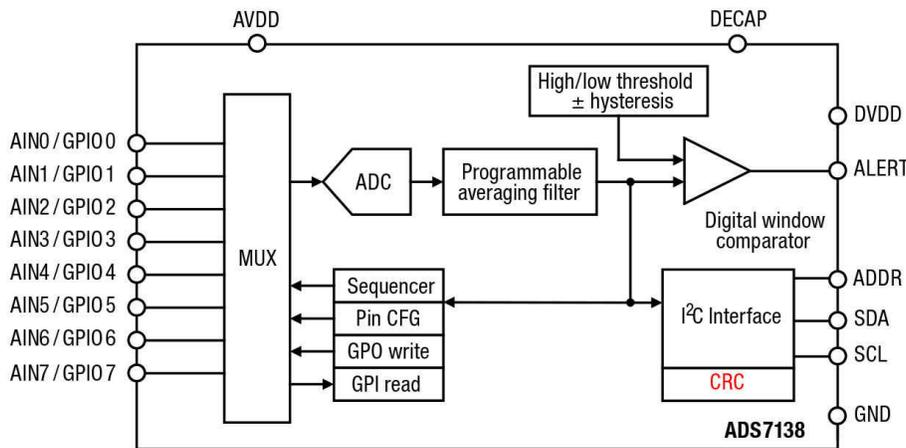

Figure 10. ADS7138 with CRC on Input and Output Data
- **Cyclic redundancy check (CRC)** When using ADCs such as the ADS7138 for critical monitoring functions or redundant measurements, it becomes imperative to maintain data integrity. As shown in Figure 10, the ADS7138 achieves this by implementing CRC on the data communication between the ADC and the central processor.